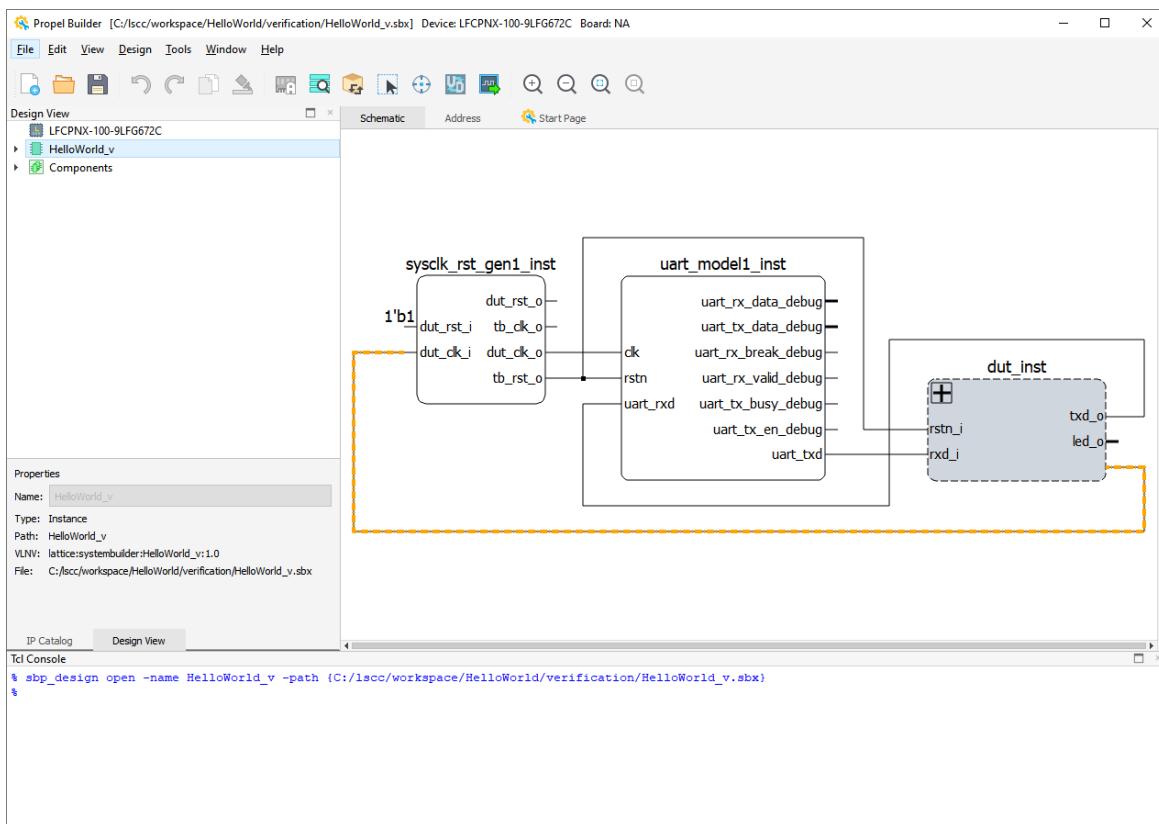

Figure 2.89. Switching to Project Verification
3. Click **Yes** in the Propel Builder dialog box. The Propel Builder GUI switches to verify the project (Figure 2.89).